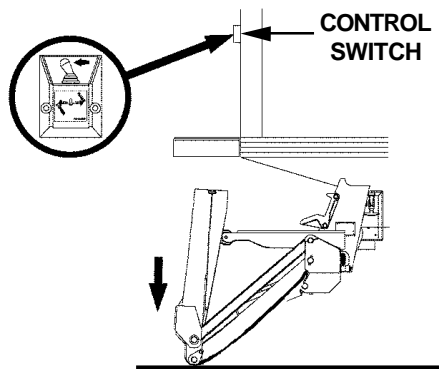
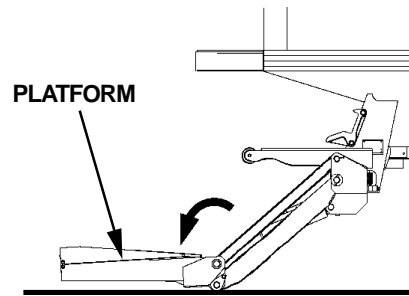

FIG. 6
FIG. 7
2. Standing to the side of platform, push Control Switch to **LOWER** position as shown in FIG. 6. Lower Liftgate to the ground (FIG. 6). Manually unfold Platform (FIG. 7) and Flip-over (FIG. 8).